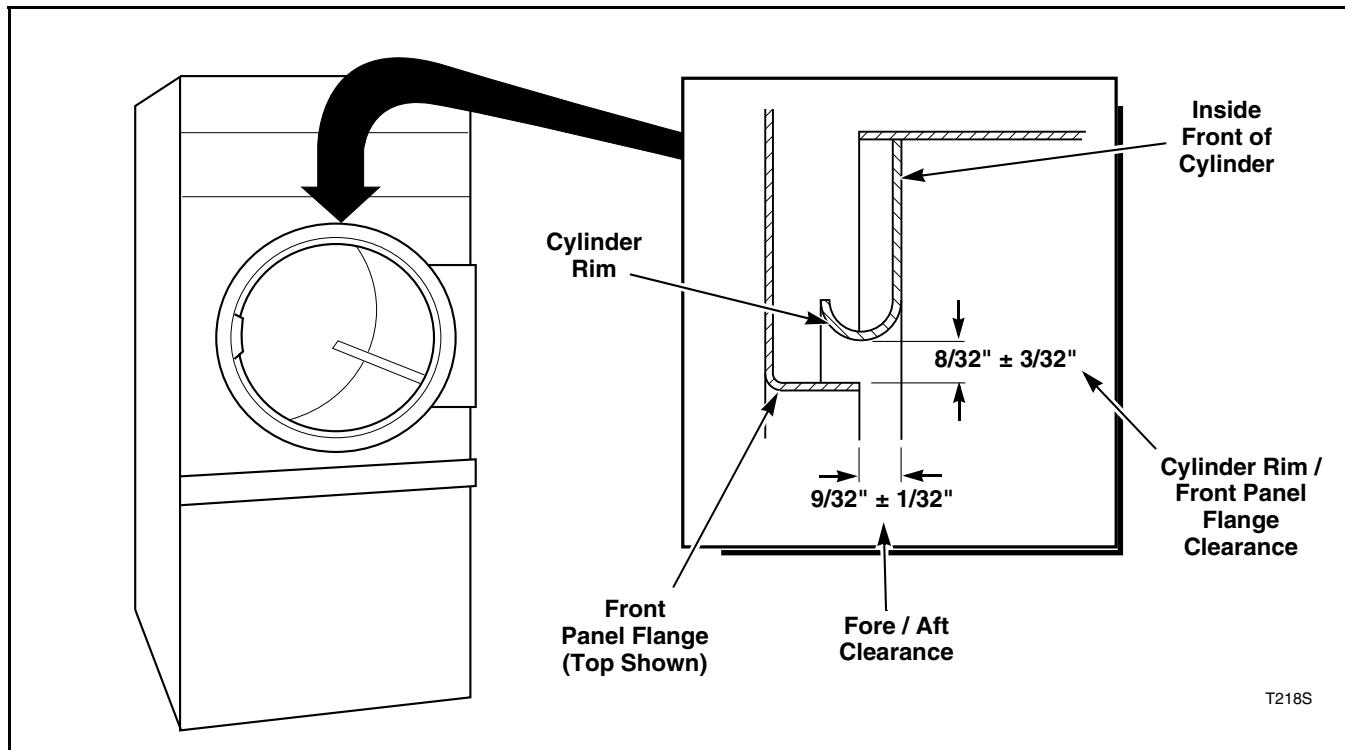

Figure 4
- b. Check the gap between the center of the front panel top flange and the cylinder rim. Proper adjustment is when the gap is $8/32$ inch $\pm 3/32$ inch. Refer to *Figure 4*. Perform steps "a" through "g" to adjust the cylinder rim/front panel flange clearance.
- c. Check the cylinder fore/aft clearance between the inside front of the cylinder and the edge of the front panel flange. Proper adjustment is when the gap is $9/32$ inch $\pm 1/32$ inch. Refer to *Figure 4*. Perform steps "h" through "m" to adjust the cylinder fore/aft clearance.